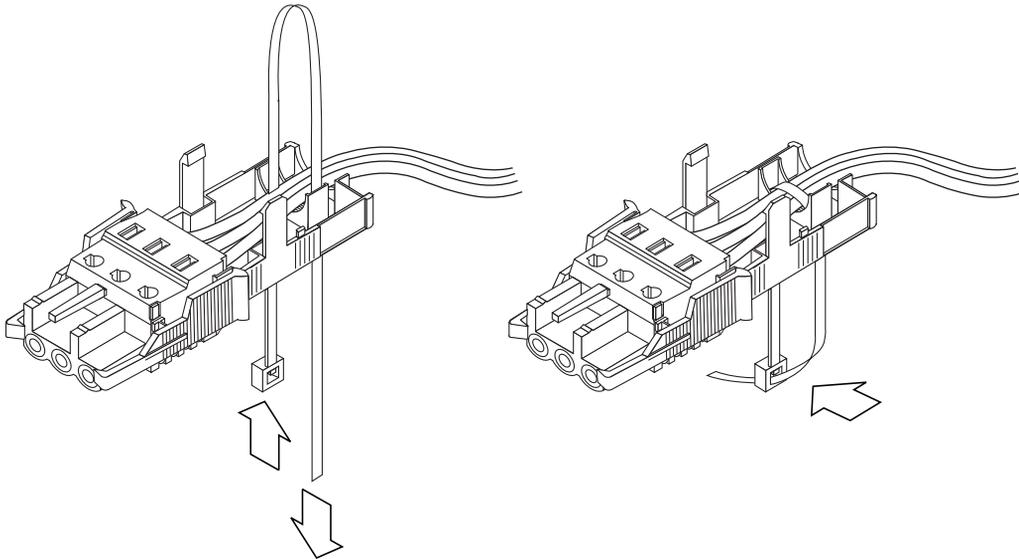

FIGURE 6-37 Securing the Wires to the Strain Relief Housing
4. Loop the tie wrap over the wires and back out of the strain relief housing and tighten the tie wrap to secure the wires to the strain relief housing (**FIGURE 6-37**).